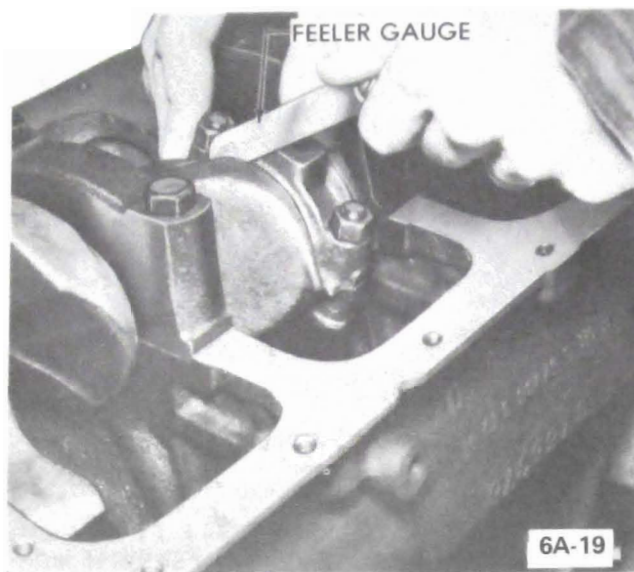

Figure 6A-19 Measuring Connecting Rod Side Clearance
11. Measure all connecting rod side clearances (see specifications), between the connecting rod cap and side of crankpin. See Figure 6A-19.